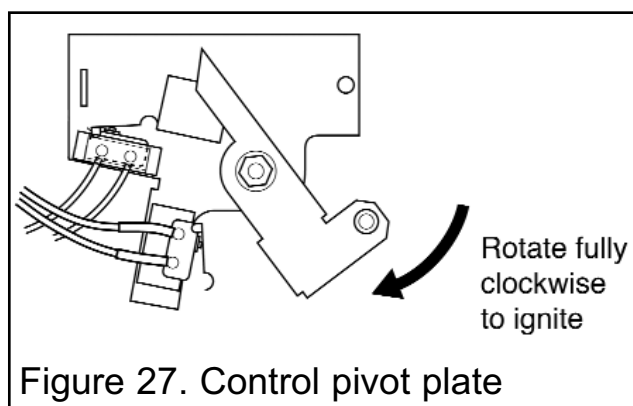

Figure 27. Control pivot plate
2. Rotate the control pivot bracket clockwise as far as it will go and hold in this position (See figure 27). This should close the ignition circuit and simultaneously open the gas tap allowing the gas to flow to the pilot. Wait a few seconds while the air is purged. The electronically generated sparks should light the pilot. The pilot should then light the main burner at its low setting. There may be a delay of up to four